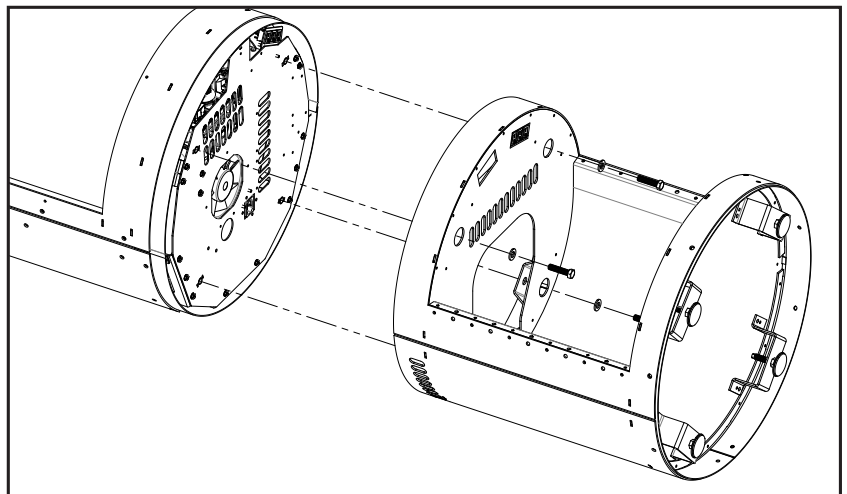

Figure 77: Wood Pedestal Installation
The wood pedestal comes packaged with four (4) hex head bolts and four (4) washers used to secure the pedestal onto the unit. Fasten the wood pedestal to the unit using the same threaded holes that the leveling legs were installed (see Figure 77).